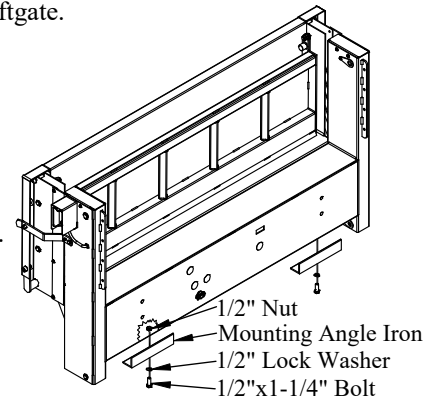

Figure 18: Mounting angle iron location.
1. **Install** the two (2) mounting angle irons to the bottom of the liftgate (Figure 18).